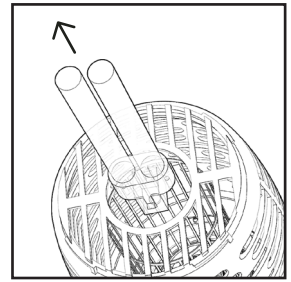

Fig. 3
4. Wearing gloves, gently tug on the bulb to remove. (Fig. 3)